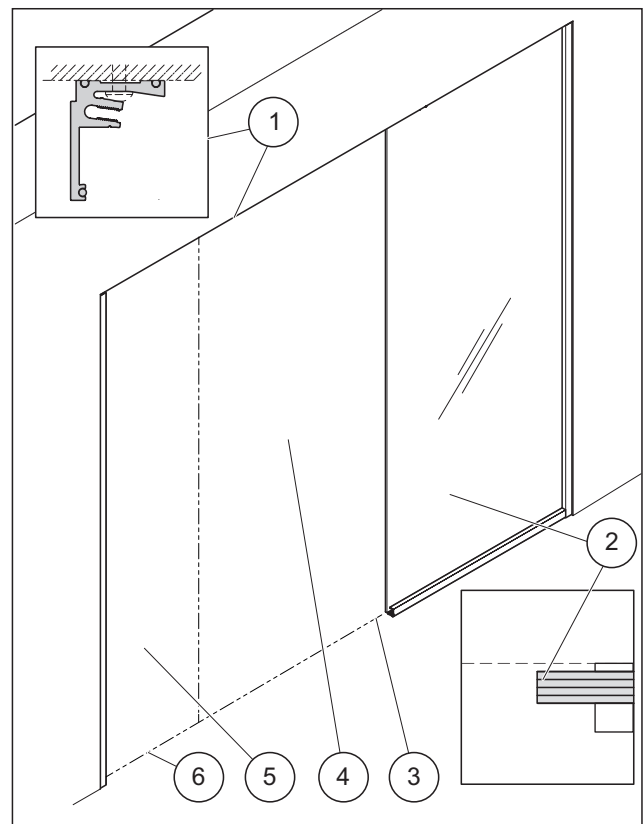

Fig. 12 Example of an installation situation with glass elements and adapter profile
It is recommended that before mounting the acoustic element on one side of the opening e.g. no horizontal base profile should be mounted on the ground (Fig. 12, pos. 6).